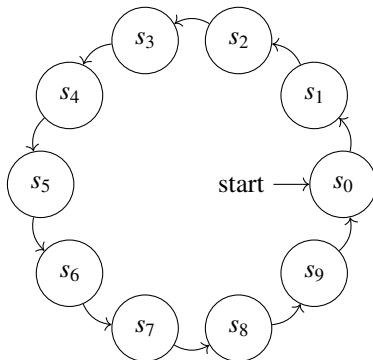

Fig. 6.1: FSM for the decade counter
1. Fig. 6.1 shows a *finite state machine* (FSM) diagram for the decade counter in Fig 5.2  $s_0$  is the state when the input to the incrementing decoder is 0 The *state transition table* for the FSM is Table 3.4, where the present state is denoted by the variables  $W, X, Y, Z$  and the next state by  $A, B, C, D$ .
For the FSM in Fig 6.1, the number of states is 9, hence the number flipflops required = 4